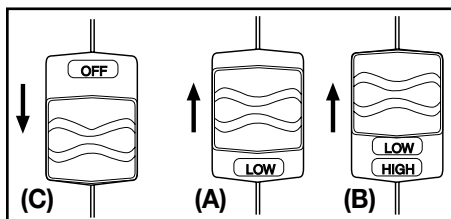

Fig. 15
This unit is equipped with an OFF/LOW/HIGH switch (Fig. 15). For low speed operation, slide the switch up to the first click (A). To select high speed, slide the switch up to the second click (B). To turn the unit off, slide the switch all the way down (C).